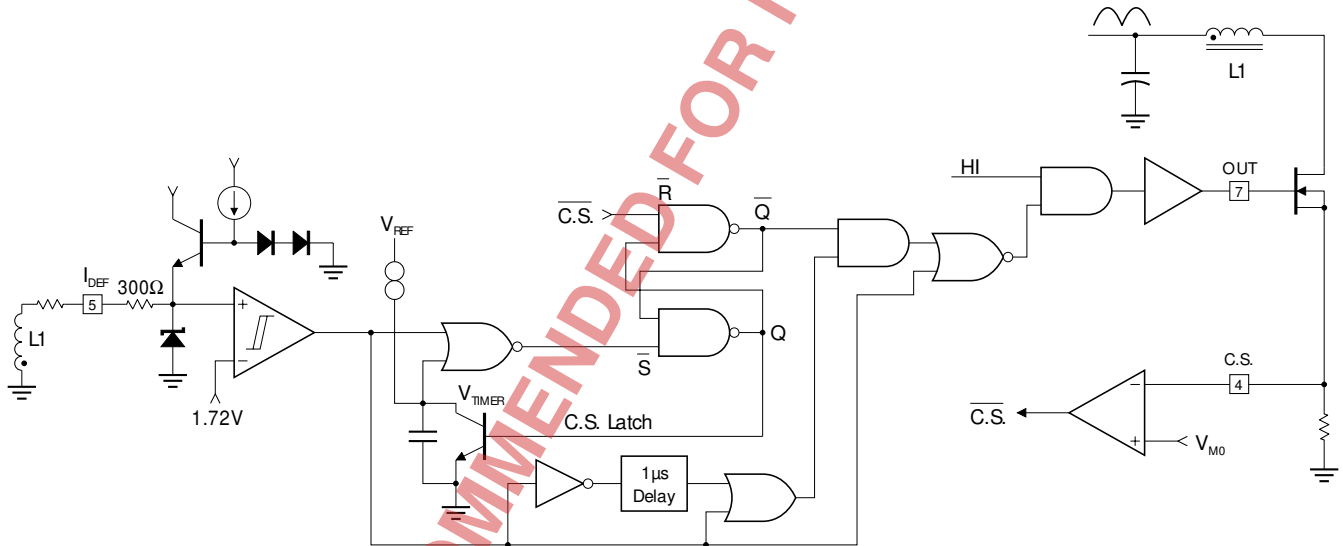

FIGURE 30 — START-UP TIMER & CURRENT DETECT LOGIC CIRCUITRY
The function of "current detect logic" is to sense the operating state of the boost inductor and to enable the output driver accordingly. To achieve this, the downward slope of the inductor current is indirectly detected by monitoring the voltage across a separate winding and connecting it to the detector input " $I_{DET}$ " pin. Once the inductor current reaches ground level, the voltage across the winding reverses polarity and changes the " $I_{DET}$ " input and the comparator output to the low state (See Figure 30). When comparator changes state, it sets the latch and turns on the output driver for a period of  $1\mu s$  (typ.) regardless of any changes in the latch output ( $\bar{Q}$ ) within this period. This ensures that if the C.S. comparator changes state due to any turn-on spike, the driver output remains on and does not turn off prematurely.
A start-up timer circuit eliminates the need for an external oscillator when used in stand alone applications. The timer, as shown in Figure 30, provides a means to automatically start the pre converter if the latch output  $\bar{Q}$  comes up in a wrong (HI) state. The timer capacitor ramps up and resets the latch to a low state, turning the output driver on.